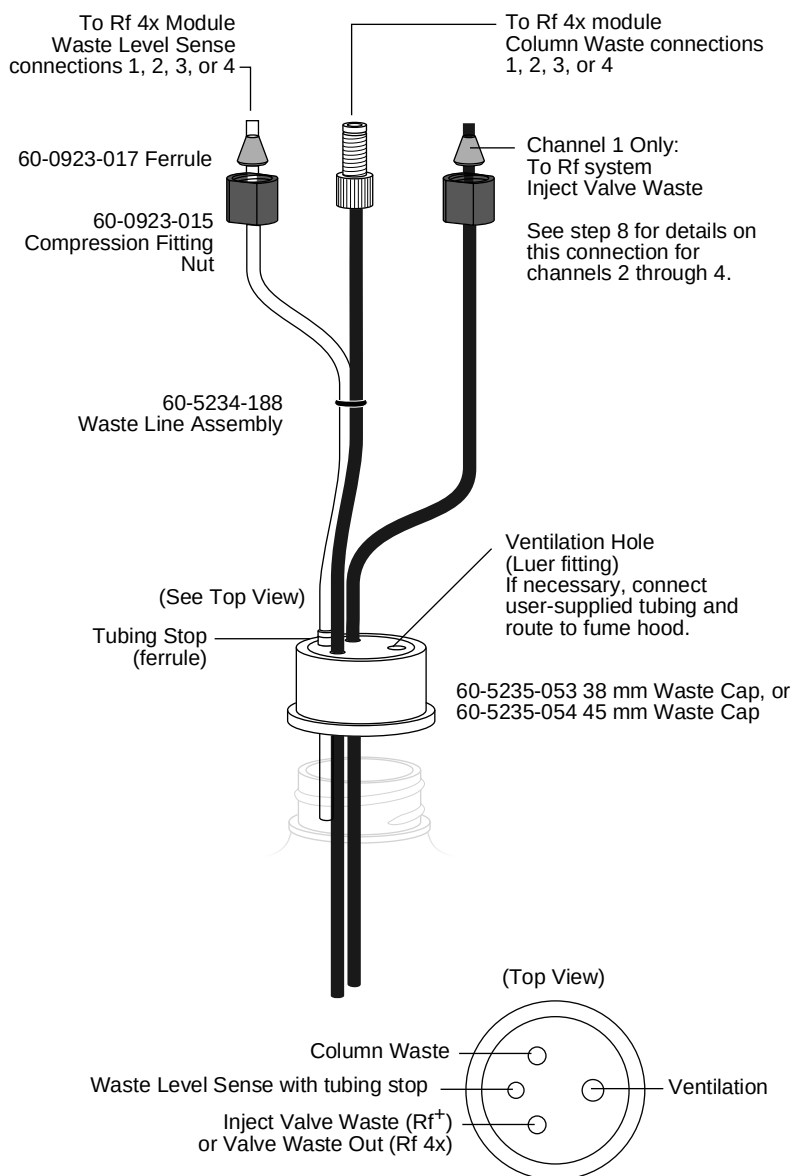

Figure 4-7 Recommended Rf 4x module channel 1 waste connections
- e. At the waste container cap for channel 1, insert the natural tubing into the Waste Level Sense opening (Figure 4-7). Push the stop (ferrule) on the Waste Level Sense tubing against the cap. This ensures that the Waste Level Sense tubing is far enough into the container to detect when it is nearly full.